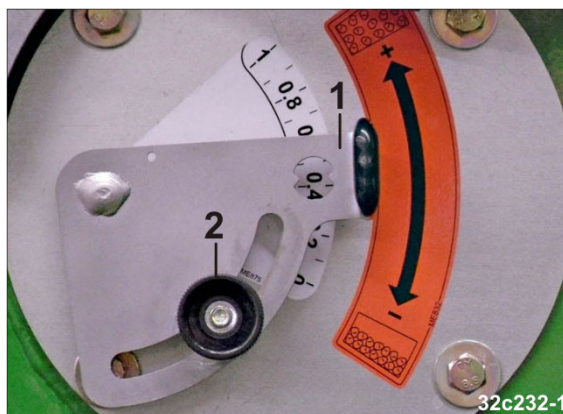

Fig. 171
1. Set the air guide with the lever (Fig. 171/1) (see setting instructions, section 5.5.4, Seite 72).
2. Secure the lever position with the knurled screw (Fig. 171/2).